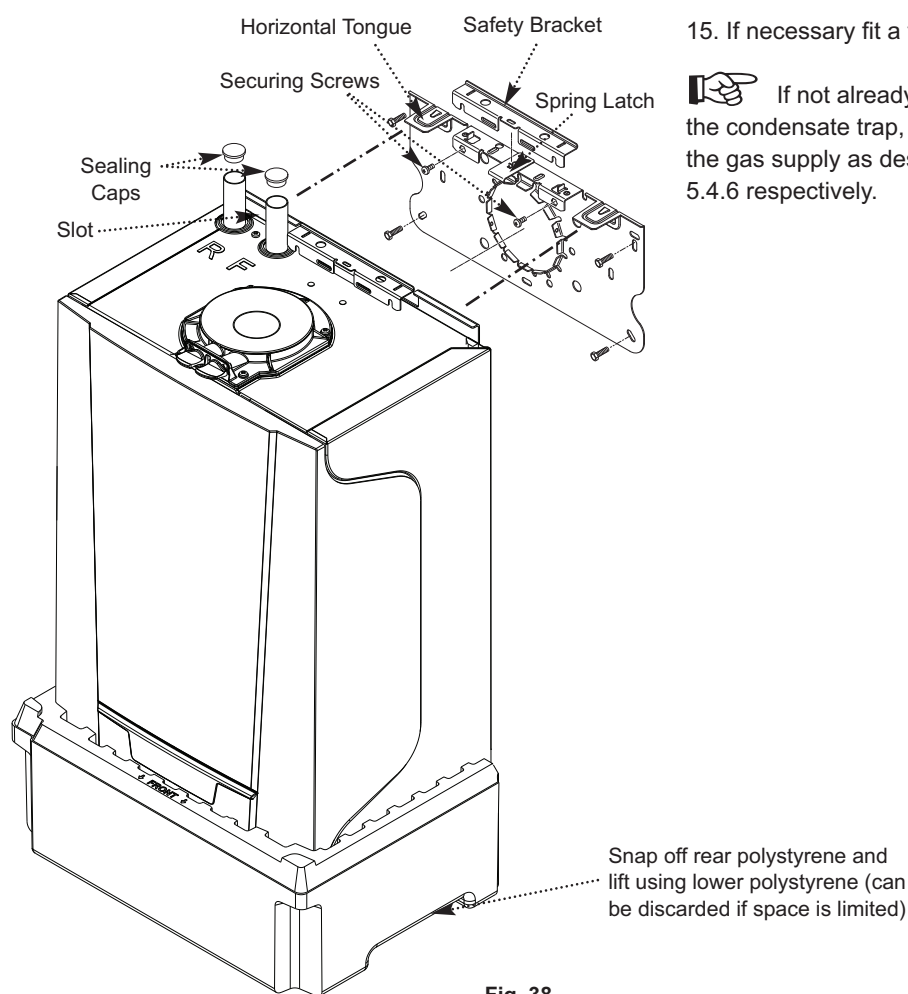

Fig. 38
11. Locate the slots in the safety bracket over the two vertical tongues on the wall bracket and secure with the two screws (Fig 38). Adjust the jack screw to ensure the boiler is fully vertical and then insert the lower securing screw.